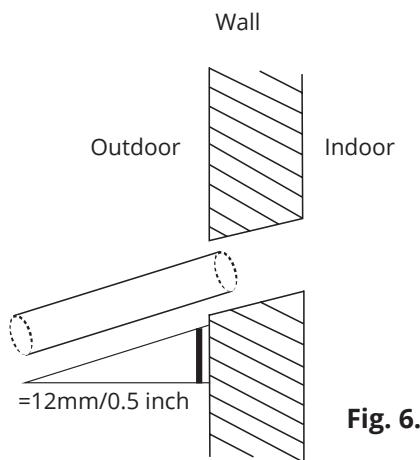

Fig. 6.4
3. Using a 65mm (2.5in) or 90mm (3.54in) core drill, drill a hole in the wall. Make sure that the hole is drilled at a slight downward angle, so that the outdoor end of the hole is lower than the indoor end by about 12mm (0.5"). This will ensure proper water drainage (See Fig. 6.4). Place the protective wall cuff in the hole. This protects the edges of the hole and will help seal it when you finish the installation process.